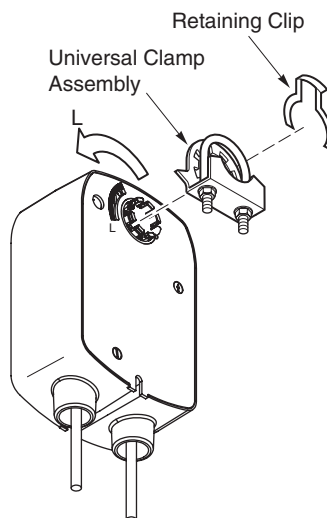

Figure-3 Mounting of Universal Clamp.
2. Place the AM-710 universal clamp in the same orientation as the universal clamp previously installed on the actuator. Secure it in place using the retaining clip. See Figure-3.